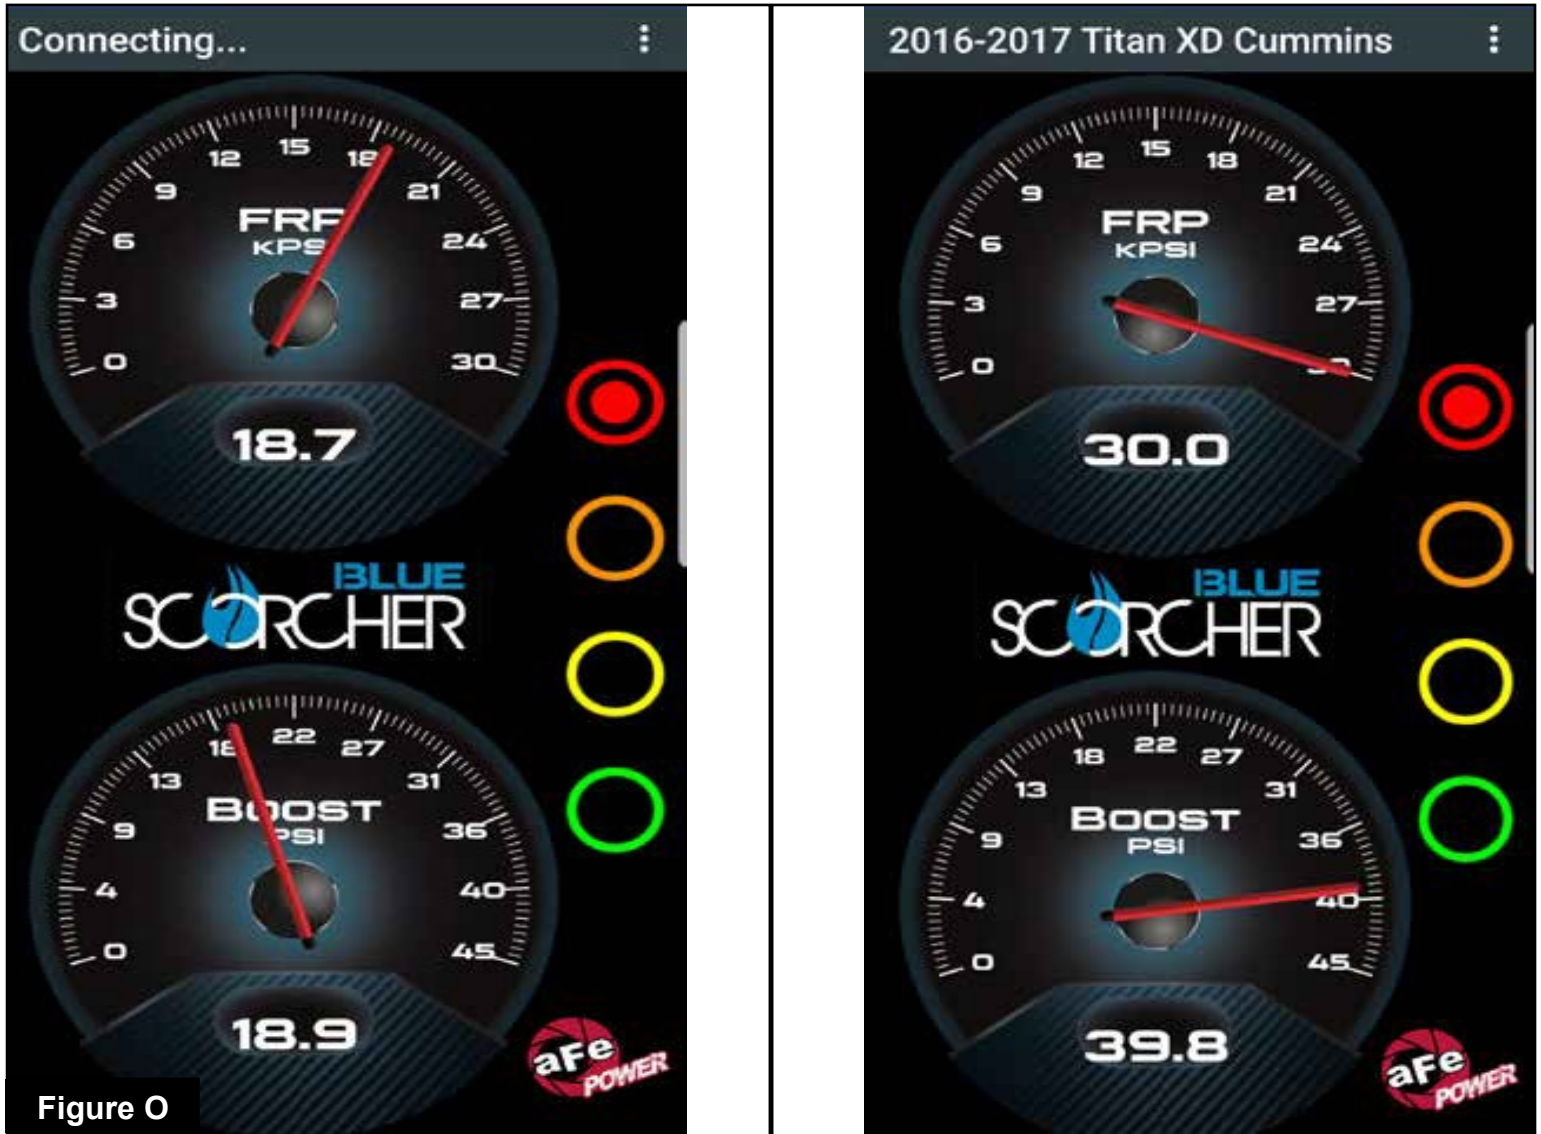

Figure 0
**Refer to Figure 0\* (app connection-iOS)**